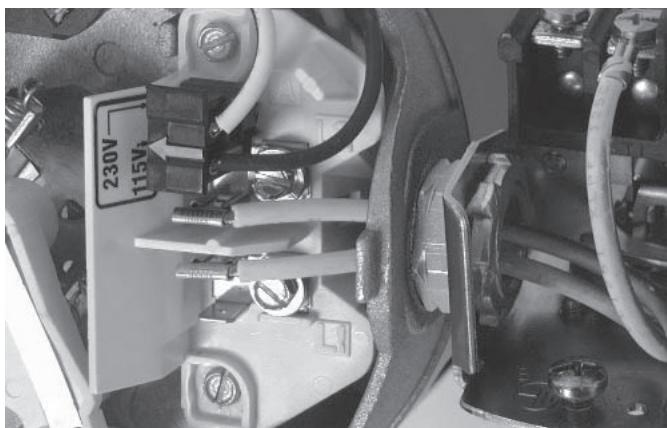

Figure 9: Voltage set to 115 volts, Plug Type
The plug will now cover 2 metal tabs and the arrow on the plug will line up with the 115V arrow on the label (see Figure 9).
- Connect the ground wire first (Figure 9). The ground wire must be a solid copper wire at least as large as the power supply wires.
- Connect the power supply wires to the pressure switch as shown in Figure 9.